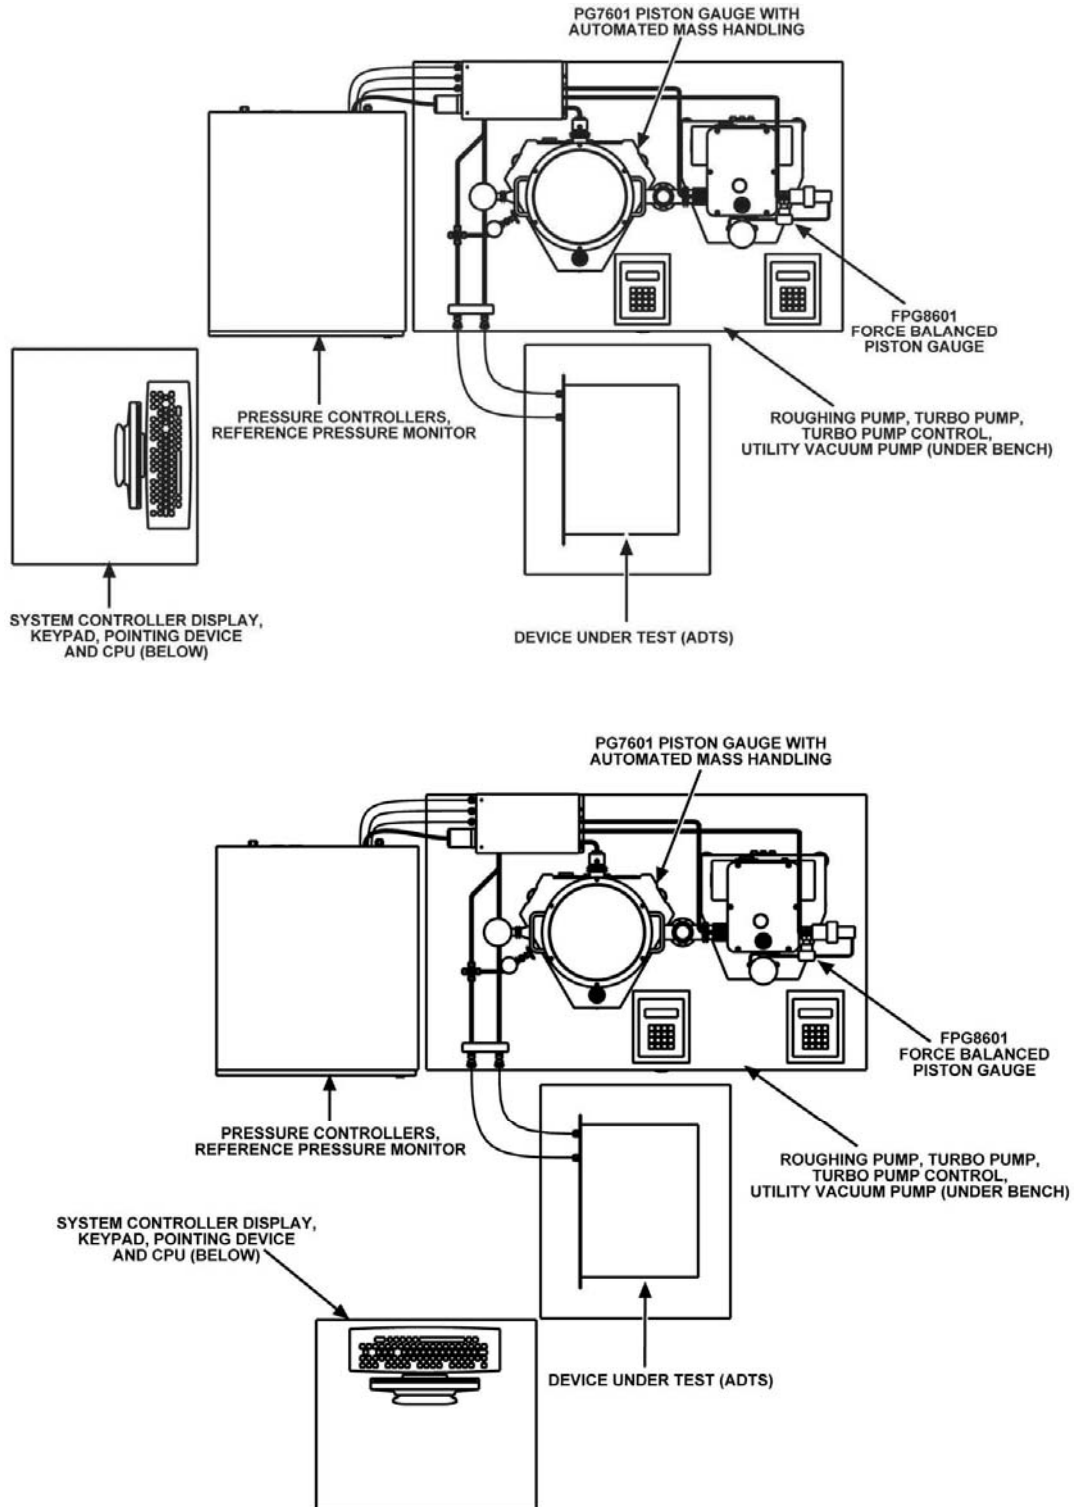

Figure 26. Typical layout of overall ADCS-601 system at site of use
- **Overall footprint:** The ADCS-601 Control Cabinet and Reference Bench must be disposed as shown in Figure 1. Select a location where adequate space is available, also consider the location of the system controller (PC) and connection of a device under test (DUT). See Figure 26 for typical ADCS-601 system layout at site of use.
- ❸ Connect the 1/4 in. stainless steel tube labeled **FPG CNTL** to the inside of the **FPG CONTROL** port on the interconnections box bulkhead. Before tightening, orient the tube so that the connection to the top port of valve 11 on the FPG8601 can be made (see Section 3.3.4). Make the connection to valve 11. Tighten both fittings.
- ❹ Connect the 1/4 in. stainless steel tube labeled **FPG TEST** to the 1/4 in. Swage open port on valve 2 in the interconnections box. Before tightening, orient the tube so that the KF16 connection to the FPG8601 high test port can be made (see Section 3.3.4). Make the connection to the FPG high test port. Tighten the 1/4 in. Swage connection.
- ❺ There is a 1/4 in. stainless steel tube with a 1/4 in. Swage by DH200 M adaptor installed coming out of the interconnections box. Connect the DH200 M end of the adaptor to the **TEST** port on the rear of the PG7601 platform. The gland and collar for the DH200M adaptor are delivered in the **TEST** port. Be sure both the Swage and swage DH200 M nuts are tight.
- ❻ Install a DH200 stainless steel plug in the **VACUUM** port on the rear of the PG7601 platform. The gland for the DH200M plug is delivered in the **TEST** port. No collar is used with a plug.
- ⑦ Make the PG7601 platform lateral KF25 vacuum port connection to the Reference Bench tubing using a KF25 clamp and centering ring.
- ⑧ Ensure that the 1/8 in. pneumatic line labeled **4** is connected between the interconnections box and the valve labeled **V4** at the PG7601 lateral KF25 vacuum port.
- ⑨ Connect the 1/8 in. pneumatic line labeled **7** from the interconnections box to the **DRIVE IN** port on the rear of the FPG8601 platform.
- ⑩ Ensure that the 1/8 in. pneumatic line labeled **6** runs from the interconnections box down through the reference vacuum tube hole in the bench and connects to the valve labeled **V6** on the back of the turbo pump controller bracket.
- ⑪ Reinstall the Reference Bench pneumatic interconnections box cover that was removed in ①.
- ① Position the Control Cabinet next to the Reference Bench (see Figure 26). Once the Cabinet is positioned, extend the feet under each corner of the cabinet to level the cabinet in a fixed position.
- ② Unwind the large bundle of pneumatic tubes and electrical connections that originate from the rear opening of the cabinet.
- ③ Connect the large, grey, (8) port connector from the Control Cabinet to the **VALVE CONTROL** connection on the Reference Bench interconnections box bulkhead.
- ④ Connect the 1/4 in. PFA tube labeled **MONITOR** to the **MONITOR** connection on the Reference Bench interconnections box bulkhead.
- ⑤ Connect the 1/4 in. PFA tube labeled **PG CNTL(+)** to the **PG CONTROL (+)** connection on the Reference Bench interconnections box bulkhead.
- ⑥ Connect the 1/4 in. PFA tube labeled **UTIL VAC** to the **UTILITY VACUUM** connection on the Reference Bench interconnections box bulkhead.
- ⑦ Connect the 1/4 in. PFA tube labeled **FPG CNTL(-)** to the **FPG CONTROL (-)** connection on the Reference Bench interconnections box bulkhead.
- ⑧ Connect the 1/4 in. PFA tube labeled **FPG CNTL(+)** to the **FPG CONTROL(+)** connection on the Reference Bench interconnections box bulkhead.
- ⑨ Connect the 1/8 in. PFA tube labeled **FPG LUB SUP** to the **LUBRICATION SUPPLY** port on the rear of the FPG8601 platform.
- ⑩ Connect the 9 pin D-sub cable labeled **PG COM1** to the **COM1** port on the rear of the PG7601 Platform.
- ① Connect the 9 pin D-sub cable labeled **PG COM2** to the **COM2** port on the rear of the PG7601 Platform.